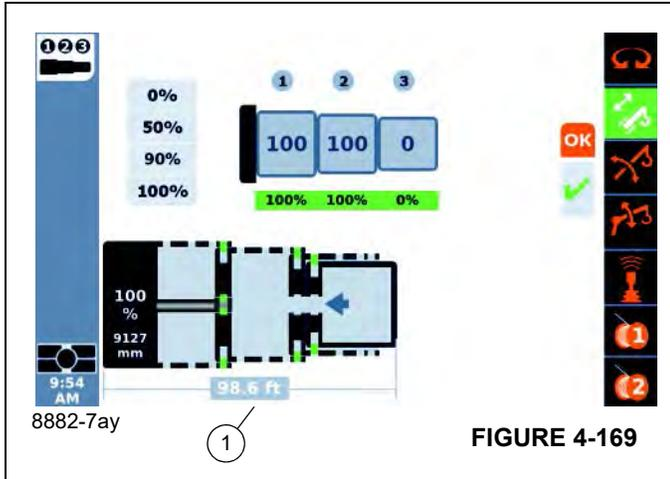

FIGURE 4-169
Display:	Current extended length of the main boom (1), (Figure 4-169)